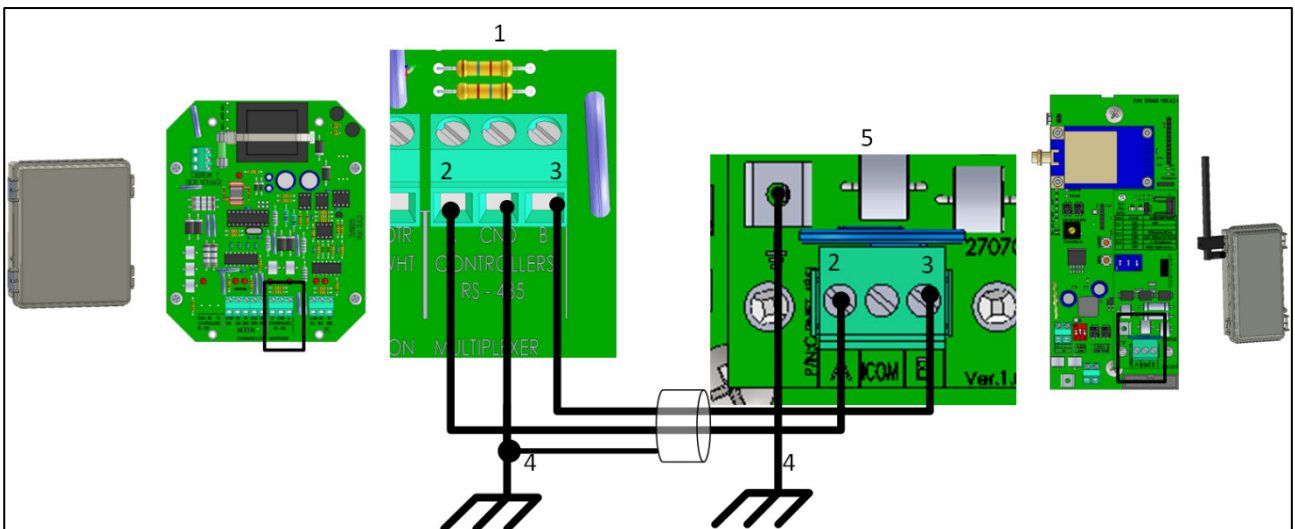

Figure 28: Wiring an MUX-485 to a RLINK ONE
- Figure 28: Wiring an MUX-485 to a RLINK ONE
Figure 28 key